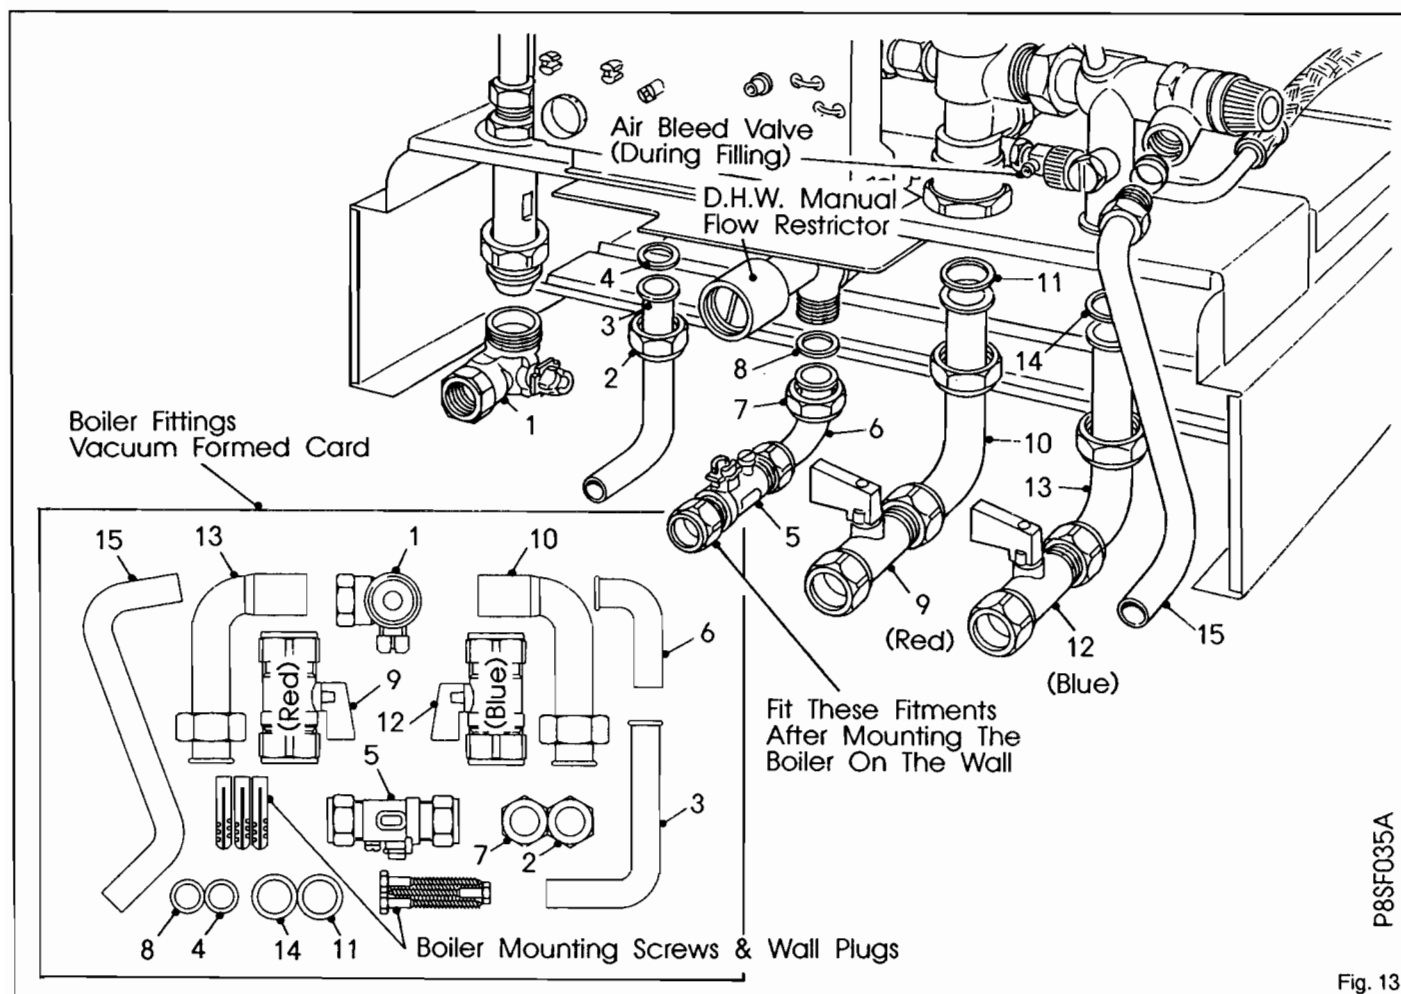

Fig. 13
All connections to the appliance are supplied unassembled in the boiler carton on a vacuum formed card. Remove all fittings and assemble to the appliance. See Fig. 13
(see Fig. 13)
- b) Fill and vent the system until the pressure gauge registers 1.5 bar (21.5 psi), examine for leaks and rectify. Do not overtighten joints. During filling ensure that the plastic screw on top of the automatic air vent is not tight and air can escape. **Do not tighten the air vent screw after filling.** To ease filling an air bleed valve (See Fig. 13) is fitted to the diverter valve which must be opened until water flows out. The valve should then be closed.